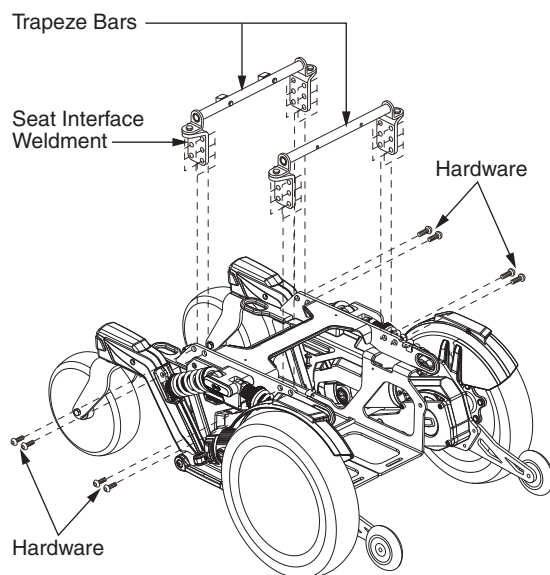

Figure 10. Seat Height/Angle Adjustment
7. Remove the hardware that attaches the trapeze bars to the seat interface weldments. **See figure 10.**